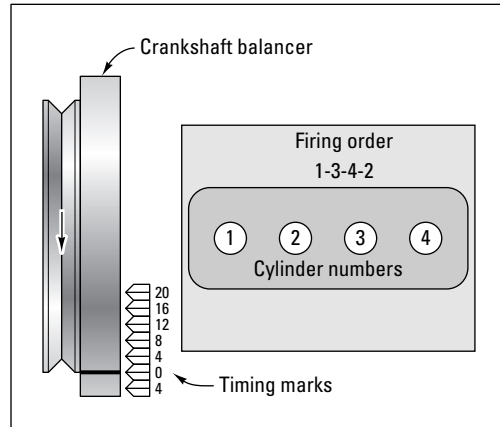
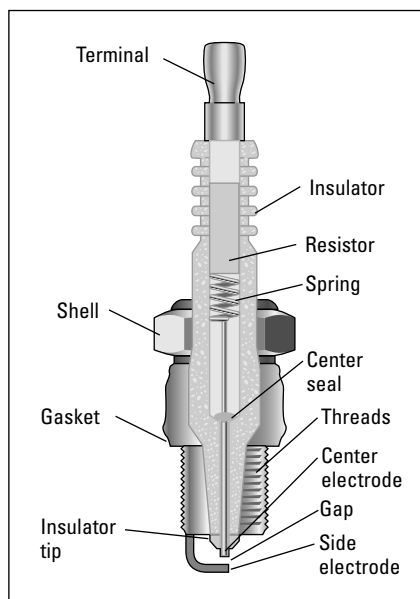

Figure 5-10: The cylinder sequence and firing order of an in-line 4-cylinder transverse engine.
Figure 6-3: The anatomy of a spark plug.
- ✔ Vehicles with **front-wheel drive** have **transverse engines**. On both in-line and V-type engines, the cylinders run from one side of the vehicle toward the other. Aside from being set cross-wise, they have the same sequence and firing order as their **rear-wheel drive** in-line or V-type counterparts (see Figure 5-10).
Transverse engines have the same cylinder sequence and firing order as in-line engines, and no matter what the engine configuration, the #1 spark plug is always the spark plug in the #1 cylinder (see Figures 5-10, 5-15, and 5-16).
The cylinders fire in very swift sequence, and the result is a fairly stable engine. The firing order is printed inside each of the engines shown in Figures 5-10 through 5-16. Trace the path of combustion back and forth through each of these engines to see how the shock of combustion is distributed to avoid rocking the engine. And remember, the whole thing happens very rapidly.
To locate your spark plugs, look for a set of thick wires (or thin cables) that enter your **engine block** in neat rows — on both sides if you have a **V-type engine** or on one side if you have a 4- or 6-cylinder **in-line engine** (also called a **straight engine**). These spark-plug wires run from the **ignition coil** (or the **distributor** on older vehicles) to the spark plugs. You can see where the spark plug wires connect to the spark plugs on various types of engines in Figures 5-10 through 5-16 in Chapter 5. And, if you've never met one, Figure 6-3 later in this chapter provides a look at the anatomy of a spark plug.
Never yank on the wire itself (you can damage the wiring). The shiny thing sticking out of the **engine block** after you remove the wire from the spark plug is the *terminal* of the spark plug. Figure 6-3 later in this chapter shows you all the parts of a spark plug, including the terminal.
Figure 6-3 can help you to identify the various parts of a plug mentioned in the table.
As you can see in Figure 6-3, the hook at the top is the *side electrode*, and the bump right under its tip is called the *center electrode*. The spark comes up the center of the plug and jumps the **gap** between these two electrodes. This gap *must* be a particular distance across for your engine to run efficiently.